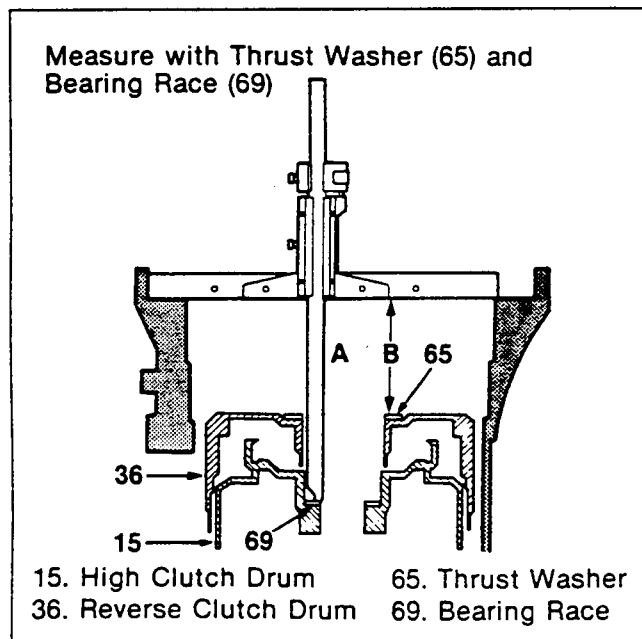

Figure 272. End Play Measurement (2)
3. Measure "A" and "B" with a depth gage (figure 272).